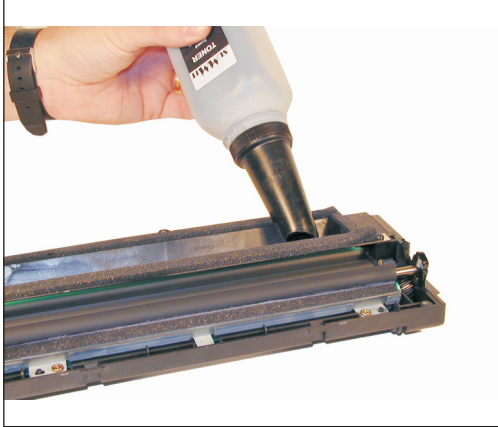

Figure 26
23) Fill the hopper with 90g of the SF-550 toner. See Figure 26